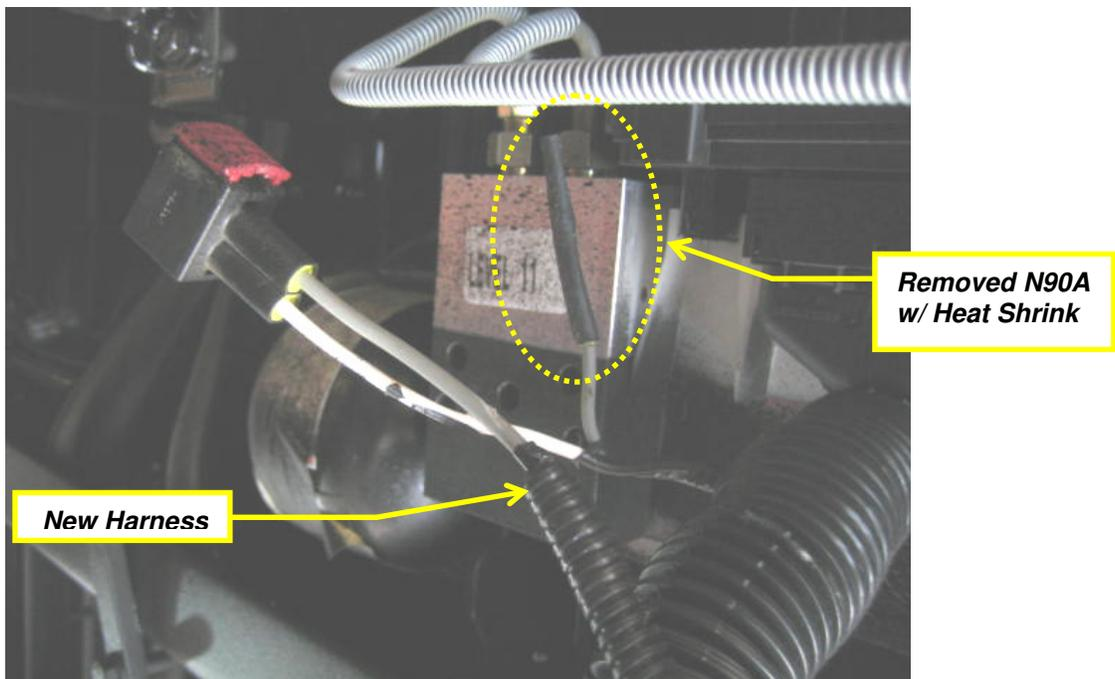

**Figure 9**
21. Release the red connector lock and pull out approximately 2 inches, until you feel the stop, and remove the 2-way connector (9510) at the brake ECU. See Figure 9.